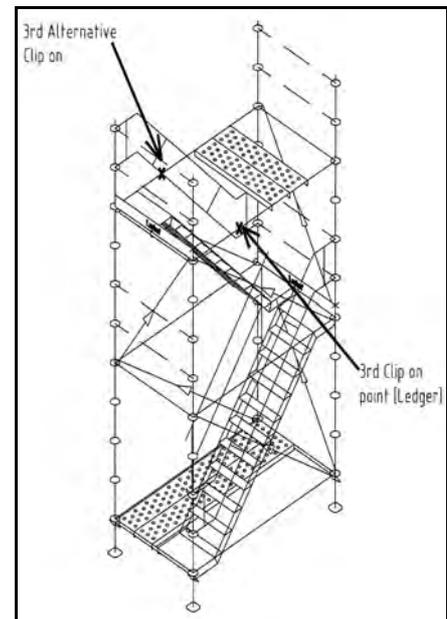

FIGURE 7.
12. Fit diagonal braces to outside face. (Two men will be required for this operation, 1 on the lower stair landing and the other standing on the erection deck.) **See fig 7.**
14. Fix end toe board across platform at 2m level, fitting the looped end over the lalo pin, and attach the cupped end of the toe-board to the opposite standard, (**Figure 7**).
15. Descend from erection decks at the 2m level and remove them. Ascend the 1st stair unit and replace the erection decks onto the ledgers at the 4m level (**figure 7**).